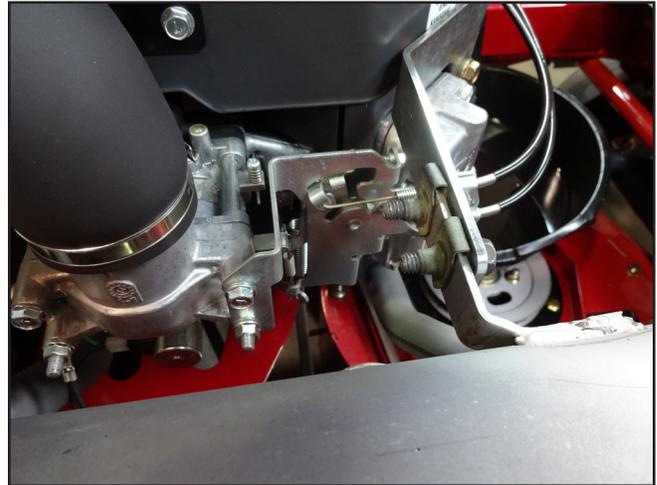

Figure 23
12. Remove the throttle or choke cable (may or may not have choke cable depending on engine type) (Figure 23).